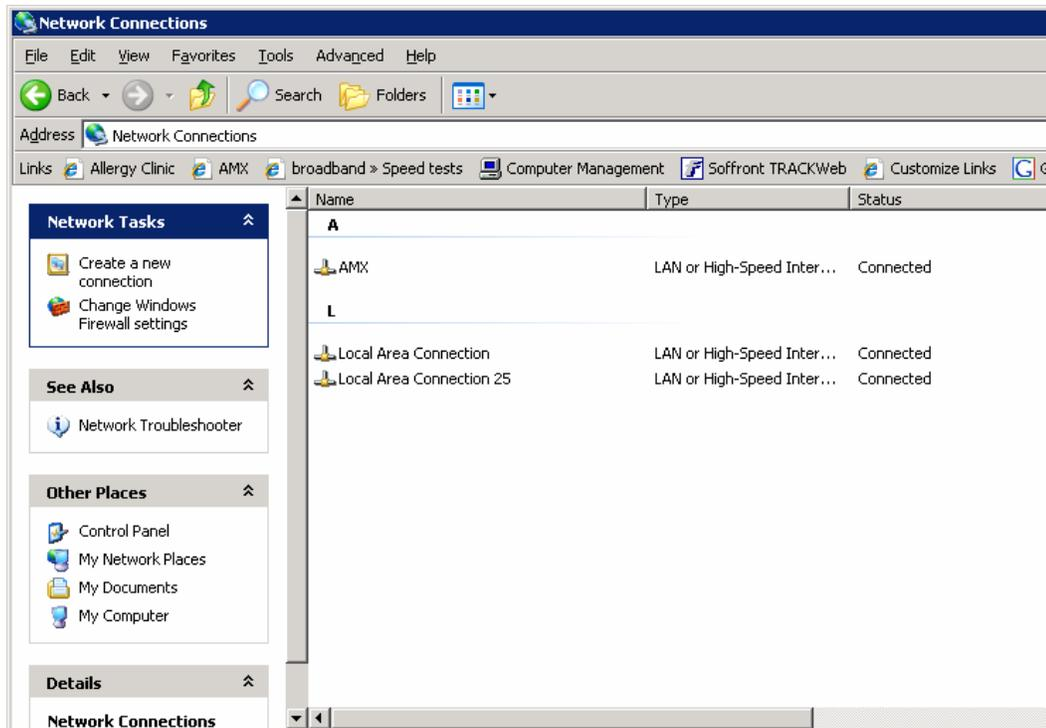

FIG. 104 Network Connections window
2. In the *Control Panel* window, click on the **Network Connections** icon to open the Network Connections window (FIG. 104)